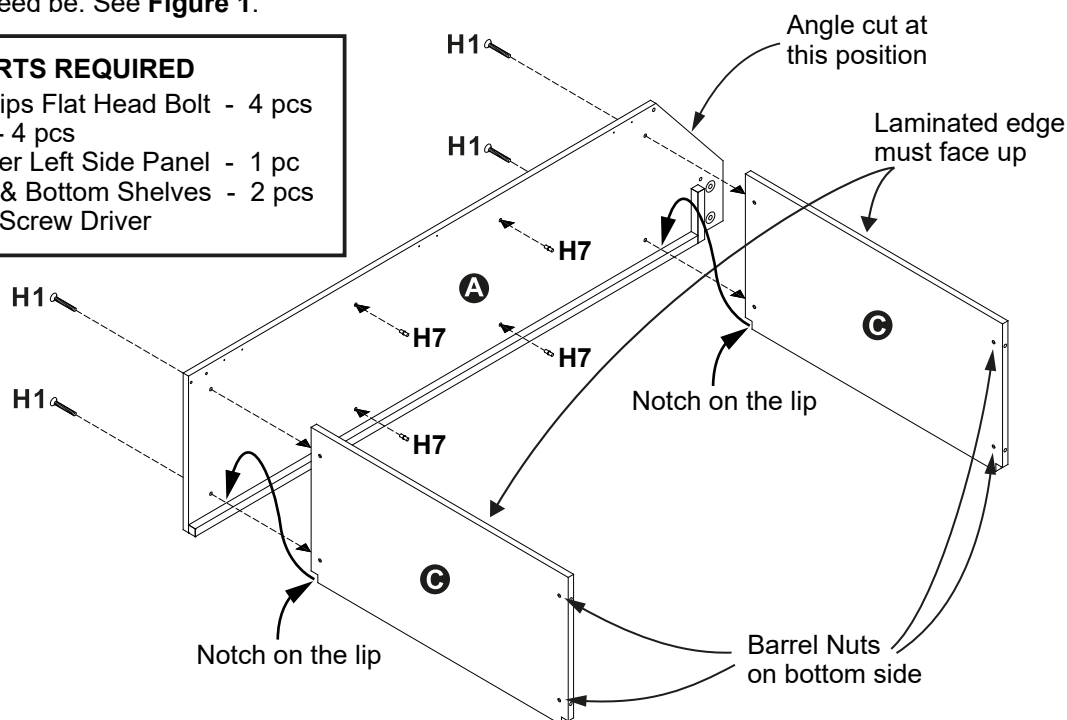

Figure 1
1. Install Parts **C** to Part **A** using 4 pcs **H1** Phillips Flat Head Bolts. See **Figure 1**. Tighten, but do Not over tighten or strip out **H1** Bolts.
2. Insert **H7** Pins into pre-drilled holes on Part **A**. Use a rubber hammer to lightly tap these **H7** Pins into place if need be. See **Figure 1**.